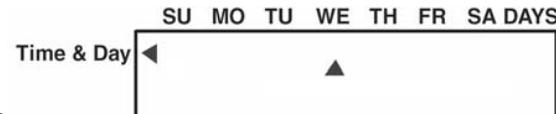

fig. 12
- 2) move it with the ↓↑ buttons until the current date is shown (fig. 12)